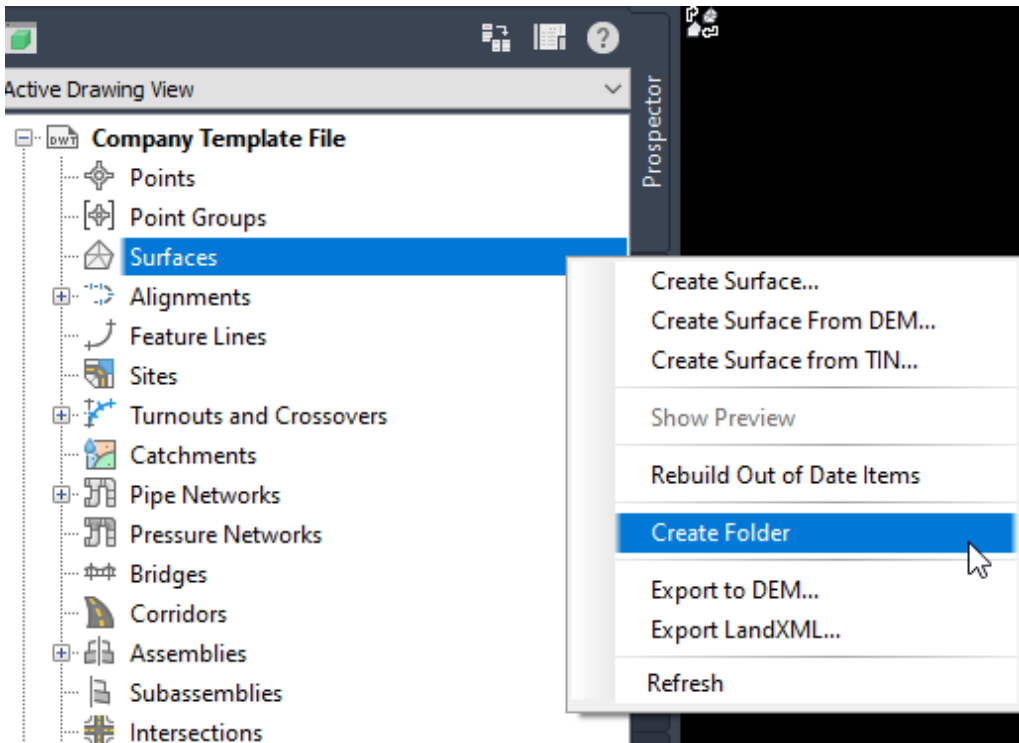

Figure 2.14 – Creating folders for each Civil 3D object
1. Right-click each of the Civil 3D modeled objects listed in **Prospector** and select the **Create Folder** option (refer to *Figure 2.14*). It is worth noting that we may need to expand a few of the objects in the list first to get down to the individual modeled objects (e.g., Alignments, Pipe Networks, etc.).